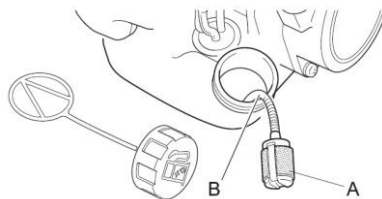

Fig. 8
WARNING! If the engine of the earth auger fails to start, check the fuel filter (**Fig. 8-A**) and replace it if it is clogged.
3. Remove the fuel filter (**Fig. 8-A**) from the tank with a metal hook.
4. Remove the filter from the fuel line (**Fig. 8-B**) and replace it with a new one.